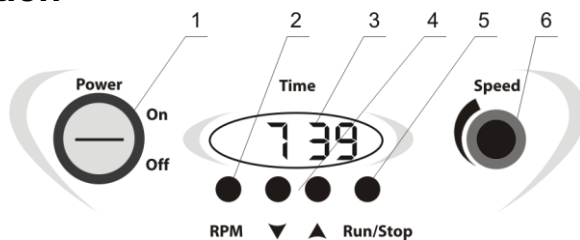

Figure 1. Control panel
- 5.3 Turn the **Power** switch (fig. 1/1) into **On** position, located on the front panel (the switch and the display, fig.1/3, lights on). In standby mode, the display shows set time or set speed (when **RPM** key is pressed).
- 5.4 Using the ▼ and ▲ keys (fig. 1/4) set the operation time using the display readings. The set time is indicated on the display in hours and minutes.
- 5.5 Set the shaking speed with the **Speed** knob (fig. 1/6) using set speed readouts on the display. Speed readouts are indicated on the display while the **Speed** knob is being turned.
- 5.6 Press the **Run/Stop** key (fig. 1/5). The platform will start shaking and the timer will start counting the operation time.